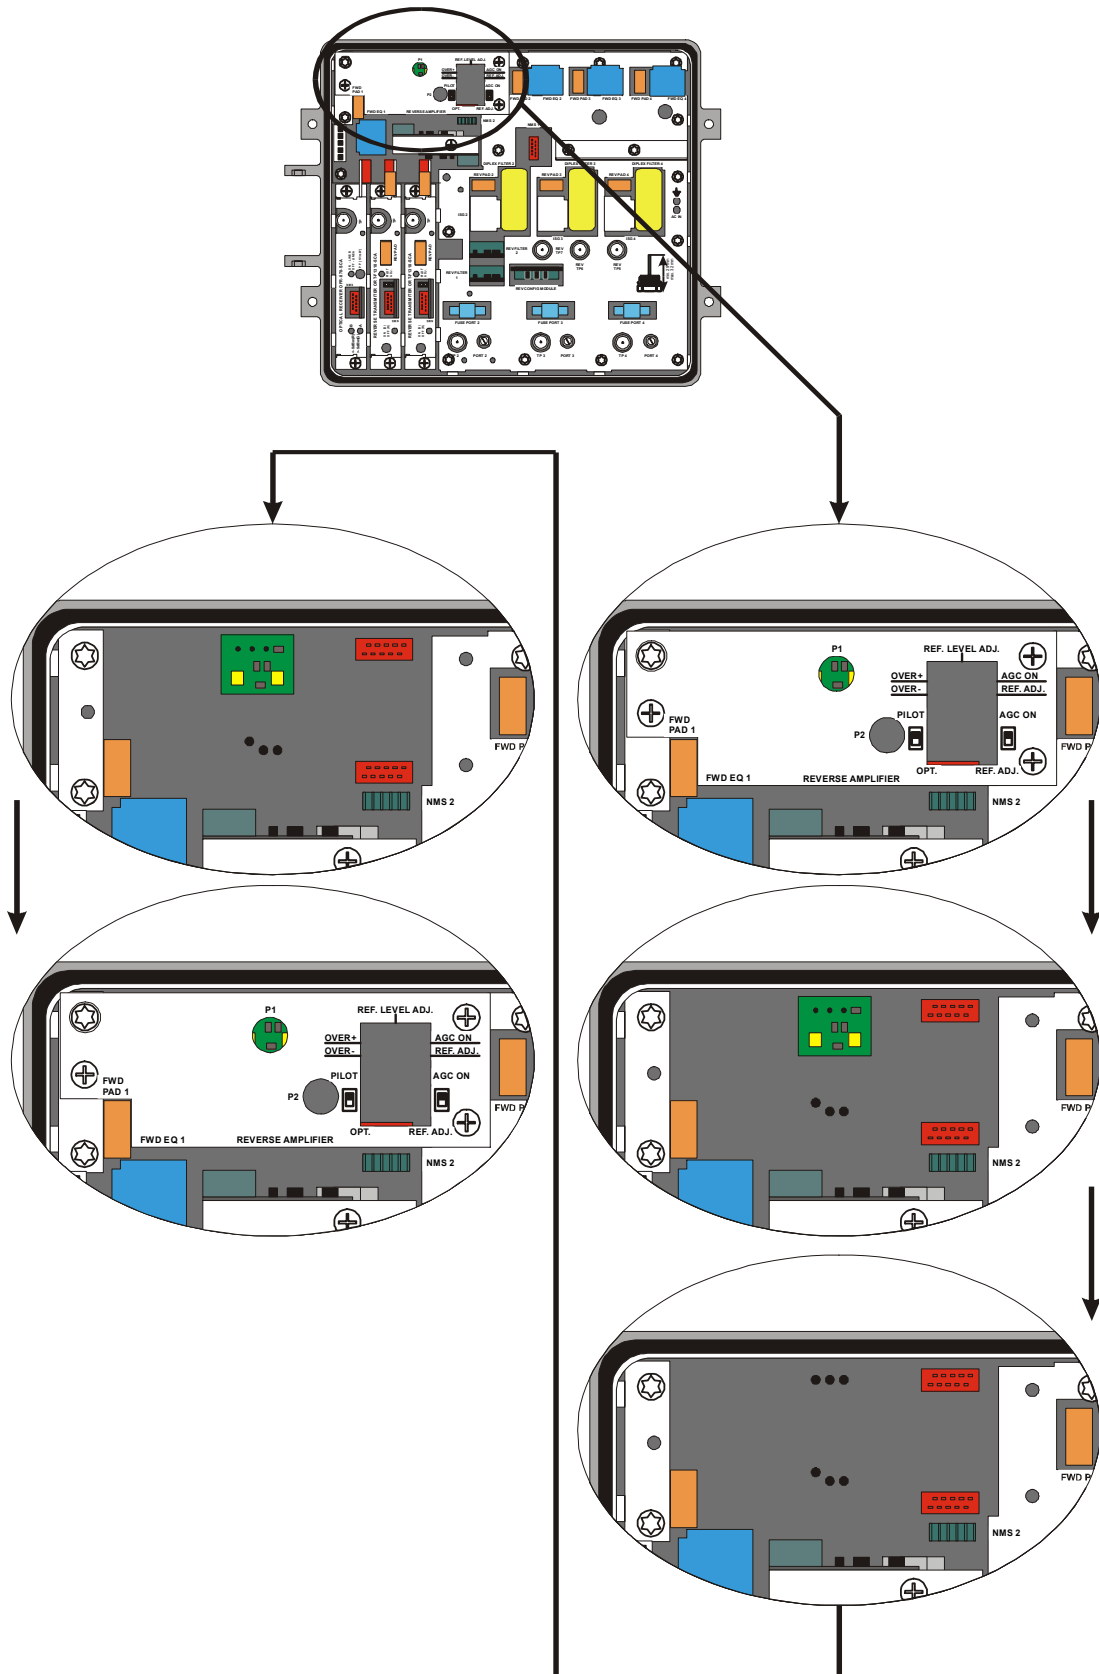

Fig. 26. HPG module replacement.
2. If the amplifier is to be equipped with an optional automatic gain control module, install the appropriate AGC xxx-x or AGC 000-x module, according to the Fig. 10. If not, the installed HGP xx module should be replaced with a HGP xx module of required frequency (as shown on the Fig. 26) by following the procedure: